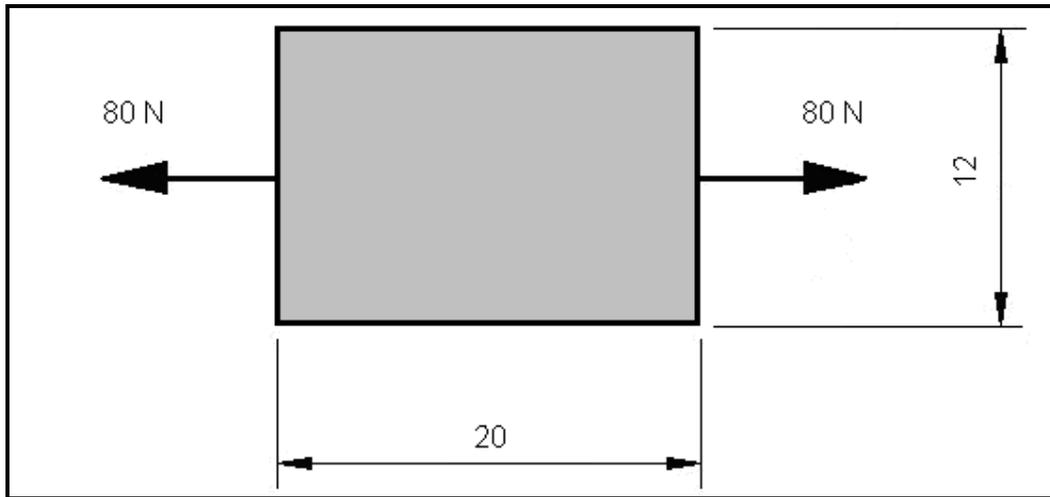

FIGURE 1.4
- 1.12 What will the stress in a 12 mm x 20 mm rectangular bar be, as shown in FIGURE 1.4, if a load of 80 N is applied to the bar?